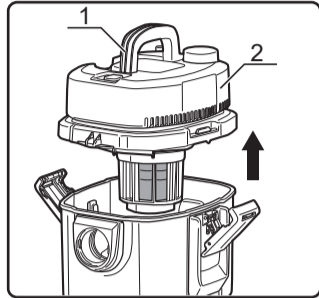

fig.2
- Lift off the top cover(2). (fig.2)